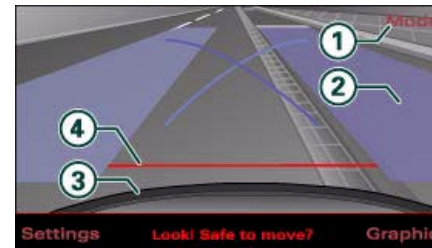
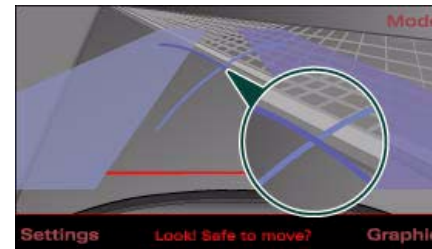

Fig. 194 MMI display: Blue area marking aligned in parking space
Fig. 195 MMI display: Blue marking touches edge of pavement
- Press the control button for **Mode** ⇒ fig. 194 ① on the MMI control console. Parking mode 2 is displayed.
- Reverse and align your vehicle in such a way that the blue area marking ② borders onto the vehicle behind or onto the parking space line marking. The blue marking is an extension of the vehicle outline and reaches about five metres to the rear of the vehicle. The long side of the blue marking should border onto the kerb. The complete blue area marking must fit into the parking space.
- Stop the vehicle as soon as the blue curve touches the kerb ⇒ *page 175, fig. 195.*
- Continue to reverse into the parking space until the vehicle is standing parallel to the kerb. ③ indicates the rear bumper. You should stop reversing, at the latest, when the red orientation line ④ is bordering on an object ⇒ ⚠! Keep a close watch on the front of your vehicle ⇒ ⚠.
If an obstacle (such as a wall) is located next to the parking space, the clearance at the side of the vehicle must be larger. Position the long side of the blue marking so that there is sufficient clearance from the kerb. The marking must not touch the kerb. You must also start turning the steering wheel much earlier. The blue curve ⇒ *page 175, fig. 195* must **not** touch the kerb - make sure there is sufficient clearance from the kerb.